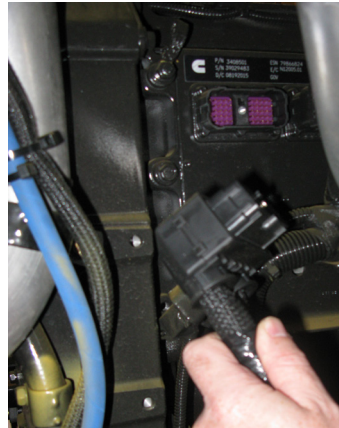

Figure 5-1-3 Disconnect ECM(Electronic Control Module)
- Disconnect ECM (Electronic Control Module). The ECM connector is located on the rear of right side of the engine (see Figure 5-1-3).